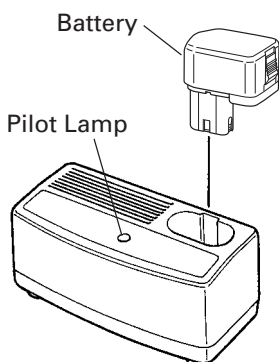

Fig. 4
1. Insert the battery into the battery charger. Insert the battery into the battery charger as shown in Fig. 4. Make sure it contacts the bottom of the battery charger.